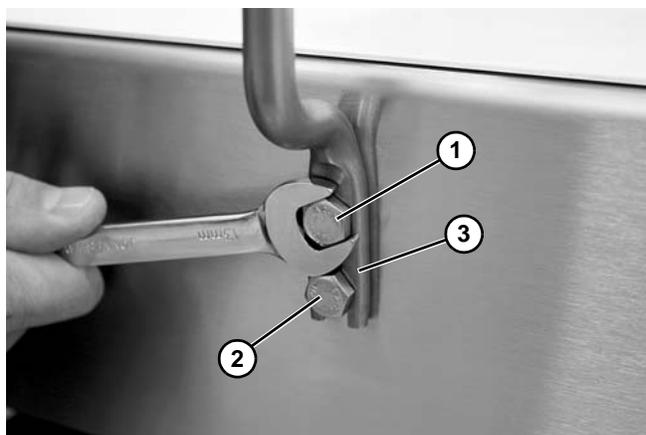

Figure 22
1. Remove the top bolt (**Figure 22, item 1**) and loosen the bottom bolt (**Figure 22, item 2**).
2. Install the guide post (**Figure 22, item 3**) behind lower bolt. Reinstall top bolt and tighten bolts.